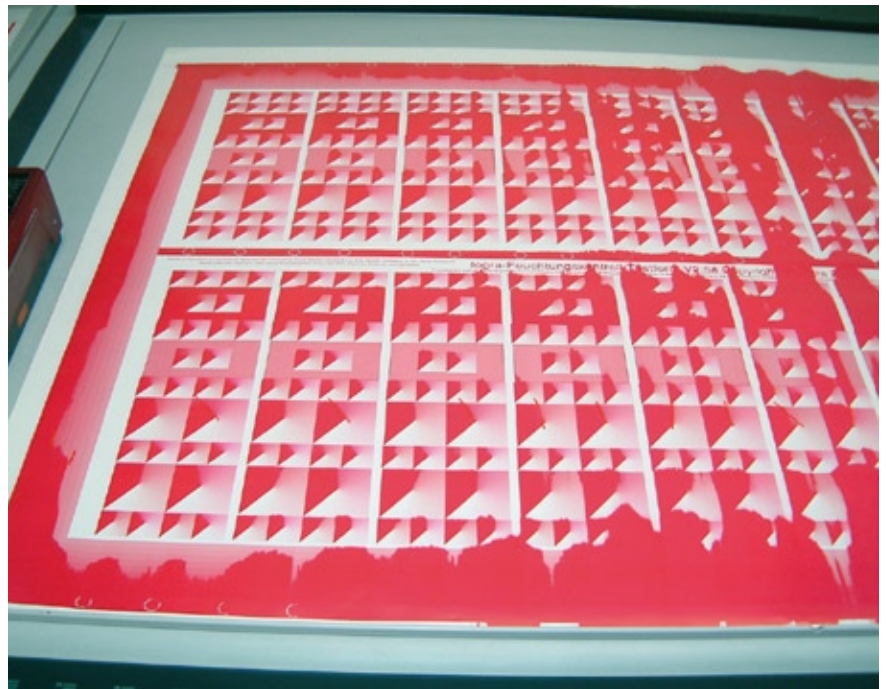

Fig. 5: Uneven toning with reduced fountain flow caused by the defective fountain unit [Fig. 6].
- wrong adjustment and/or unsuitable roller material in the fountain unit [fig. 5 and fig. 6]